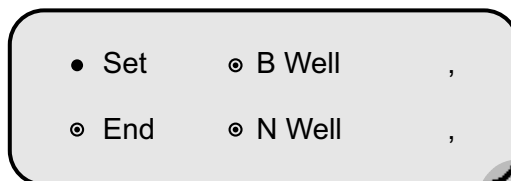

Fig. 13 : Well Setting (1)
- If the reagent specification has no requirement, you can press **Enter** key to go to the sub menu (Fig. 13);
4. At this time, the symbol in front to Continue becomes ●. If you want to continue to program, press **Enter** key to enter the interface of wells setting (Fig. 13). If you want to return to the main menu, press **Reset** key; if you want to return to the superior menu, press **▼** till the symbol in front of Return becomes ● and then press **Enter** key.